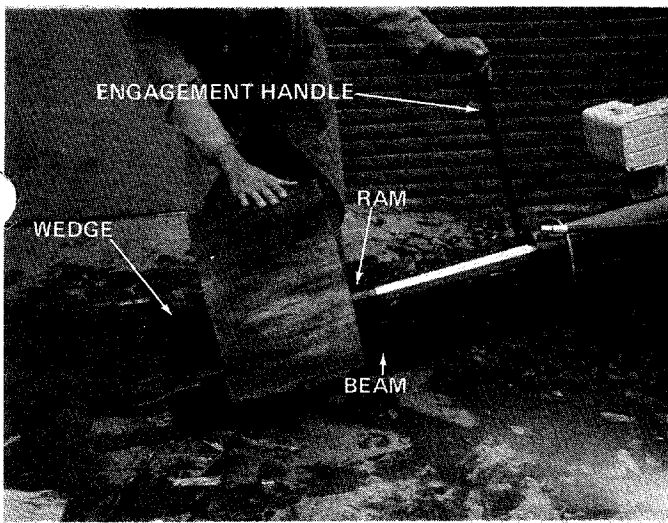

FIGURE 22
- Place log on beam and hold in place with right hand. See figure 22.